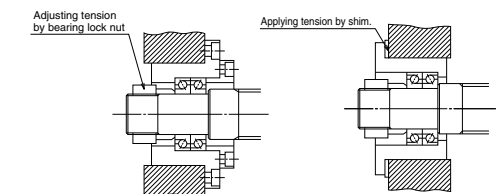

Fig. 1.2 Bearing structure to provide pre-tension
- Set pre-tension. (**Fig. 1.2**)
(3) How to determine specified travel
Fig. 1.2 shows the bearing support structure in such occasion.